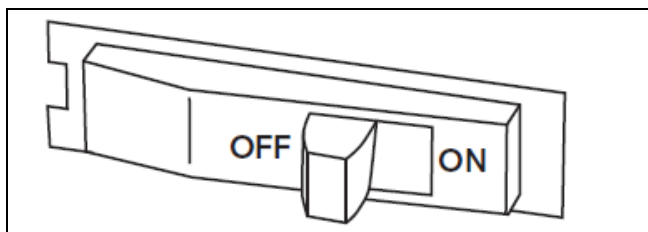

Figure 58
1. Ensure the breaker is switched off. See Figure 58.